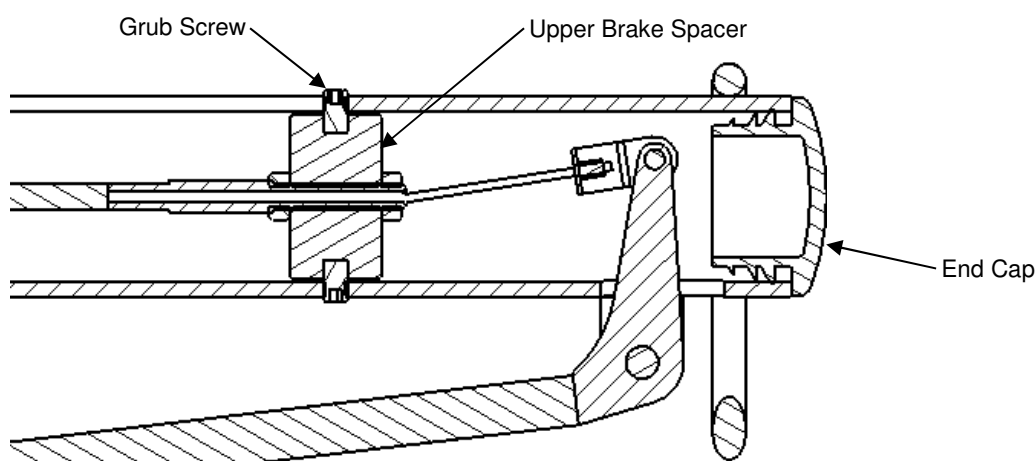

Figure 9.6.5.3 Upper Brake Spacer fitment
12. Align the slot around circumference of Upper Brake Spacer with the Grub Screw tapped holes in the TRAM Arm and install two Grub Screws from the Kit. (Ensure the longitudinal slot in the Upper Brake Spacer at approximately 90° to the Grub Screw tapped holes). See Figure 9.6.5.3.